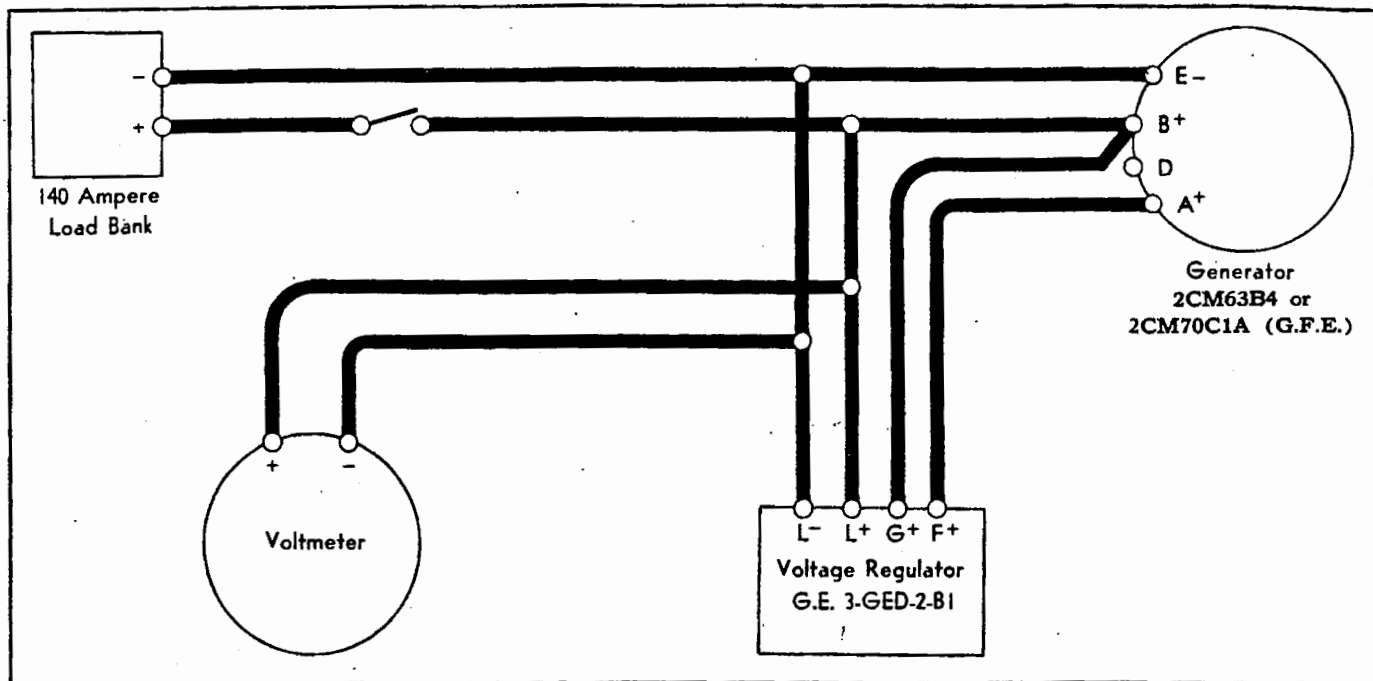

Figure 5-2. Adjustment Set-up for Voltage Regulator.
- Connect the positive and negative wires from the generator to a 160 ampere load bank. Connect the voltage regulator and voltmeter as shown in figure 5-2.